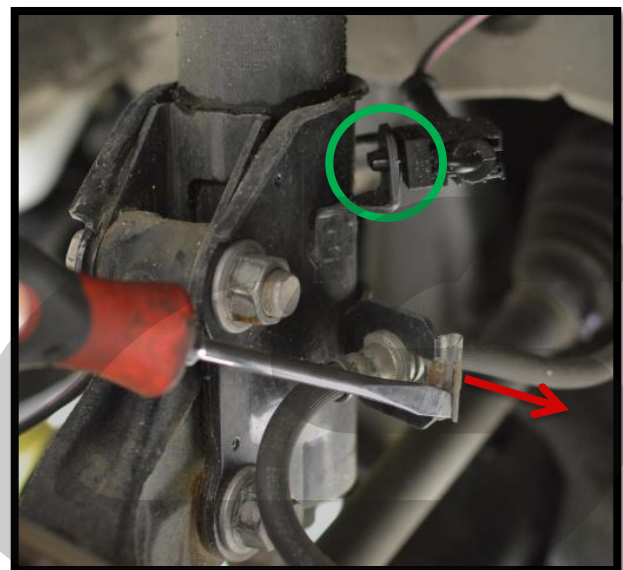

Figure 1b
- f) Remove the brake line clip using a flathead screwdriver as shown in **Figure 1b**. Then free the brake line from the strut.
- g) Remove the ABS sensor wire shown with the green circle in **Figure 1b** by squeezing the tabs with needle nose pliers.